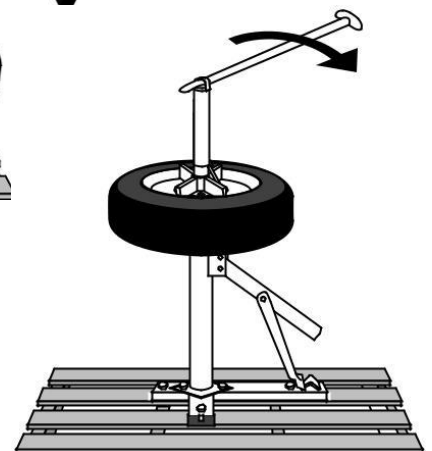

Figure 10
15. To tighten Post Cap, place flat end of Mount/Demount Bar through top of Post Cap and pull on Mount/Demount Bar. See Figure 10, below.